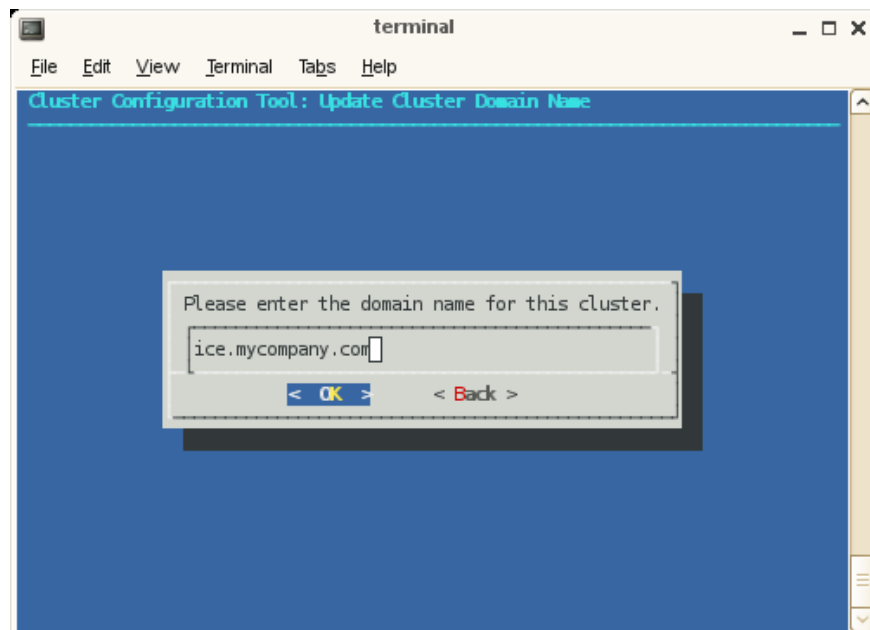

Figure 2-21 Update Cluster Domain Name Screen
12. Enter the domain name for your Altix ICE system, as shown in Figure 2-21 on page 64. Click **OK** to continue (this will be a subdomain to your house network, by default).